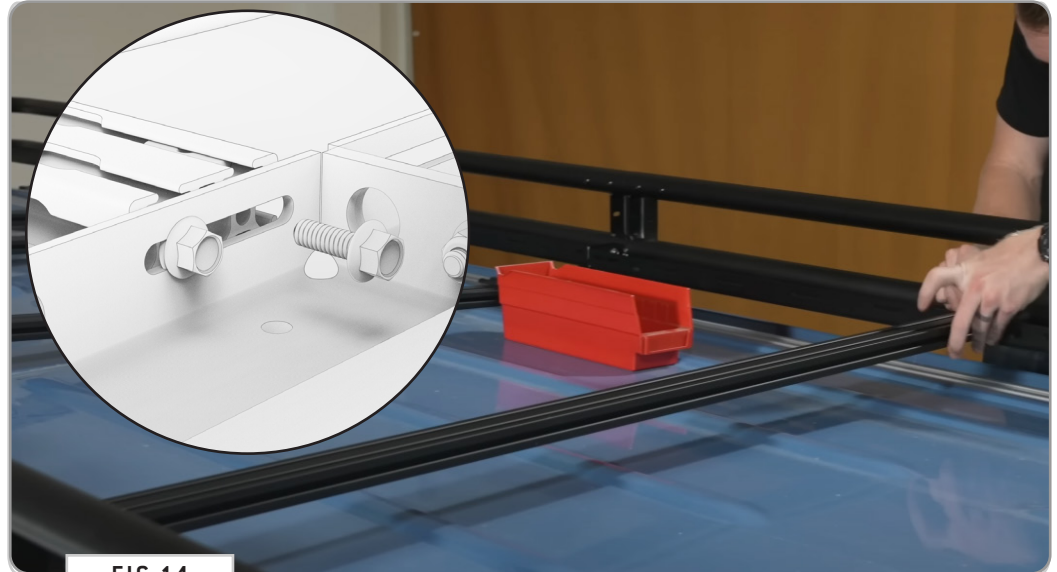
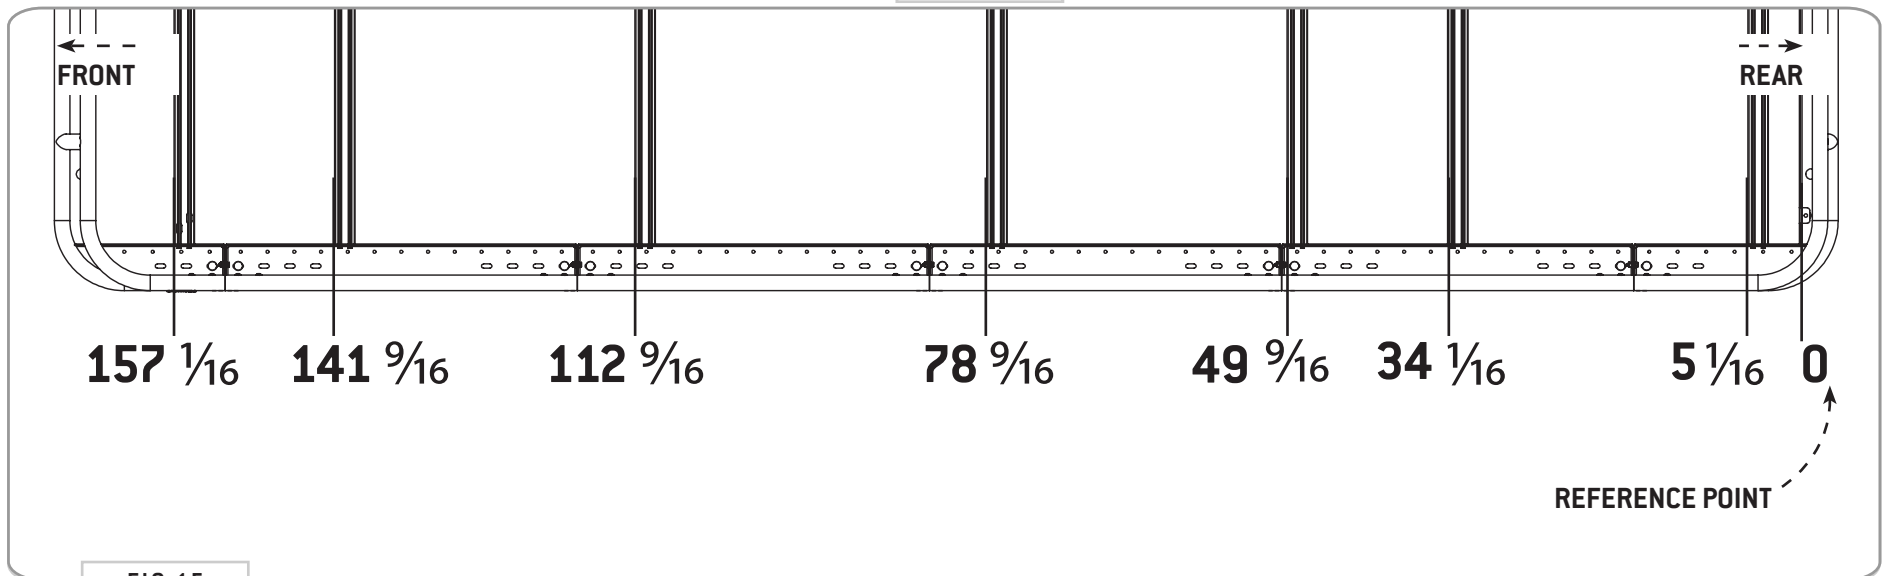

FIG 14
FIG 15
6.1 Attach Crossbars: Using (4ea) 1/4-20 Flanged Hex Bolts with Loctite (FIG 14), attach Crossbars to the rack in the locations shown in FIG 15. Be sure to measure both sides to ensure that the crossbars are square.